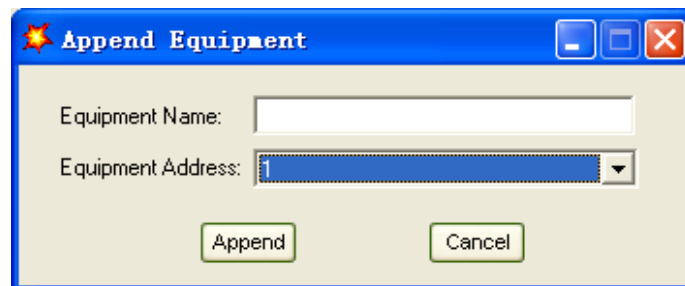

Fig. 5-25 Naming the equipment
- Put the UPS name into “Equipment Name”, and UPS’ ID address into “Equipment address” (Fig. 5-25).